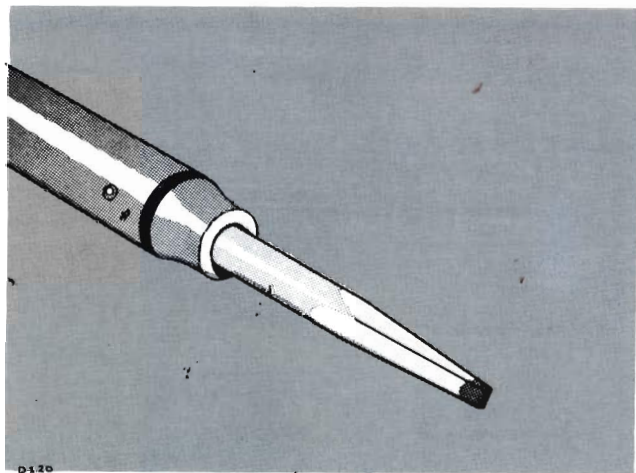

Fig. 5-2. Soldering iron tip properly shaped and tinned.
Because of the shape of the terminals on the ceramic strips it is advisable to use a wedge-shaped tip on your soldering iron when you are installing or removing parts from the strips. Fig. 5-2 will show you the correct shape for the tip of the soldering iron. Be sure to file smooth all surfaces of the iron which will be tinned. This prevents solder from building up on rough spots where it will quickly oxidize.
2. Prepare the tip of the iron as shown in Fig. 5-2.